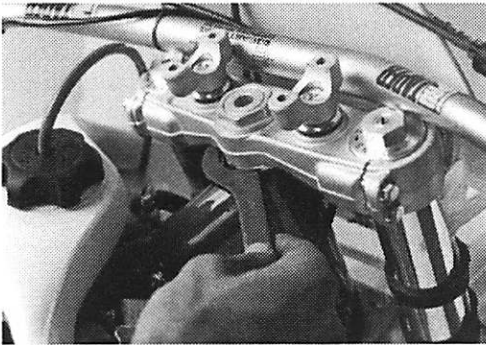

Figure 4.15
3. To tighten the steering head bearings, tighten the spanner nut under the top triple clamp using a 45 - 50 mm spanner wrench. (Figure 4.15)